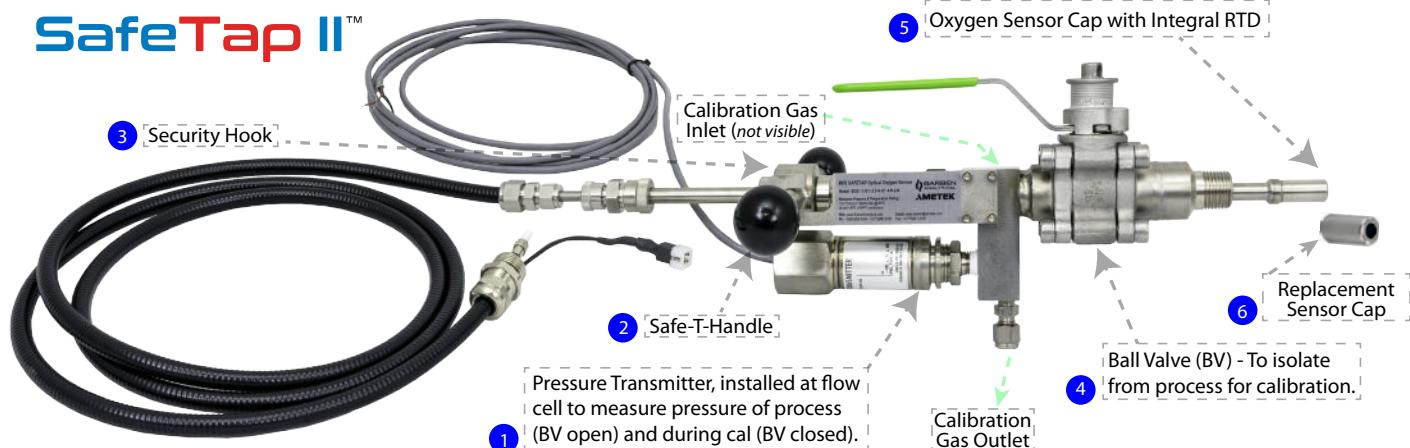

Figure 1
Figure 1 above illustrates the SafeTap II assembly with optional pressure transmitter (1) installed on the flow cell for continuous measurement of pressure in the process line and during calibration process for gas phase measurements. The BOS SafeTap II oxygen sensor comes standard with integral Pt100 RTD (5) temperature sensor suitable for Class 1 Div 2, or without using an external RTD for Zone 1. The SafeTap II is rated up to pressures of 750 psig (51.7 Bar). Built in tubing ports are included as part of the welded retraction housing so that purge and complete in situ calibration, in normal process operating conditions, and 450 psig (31.0 Bar) during Insertion and Retraction of the SafeTap II, may be performed without removal of the oxygen sensor.